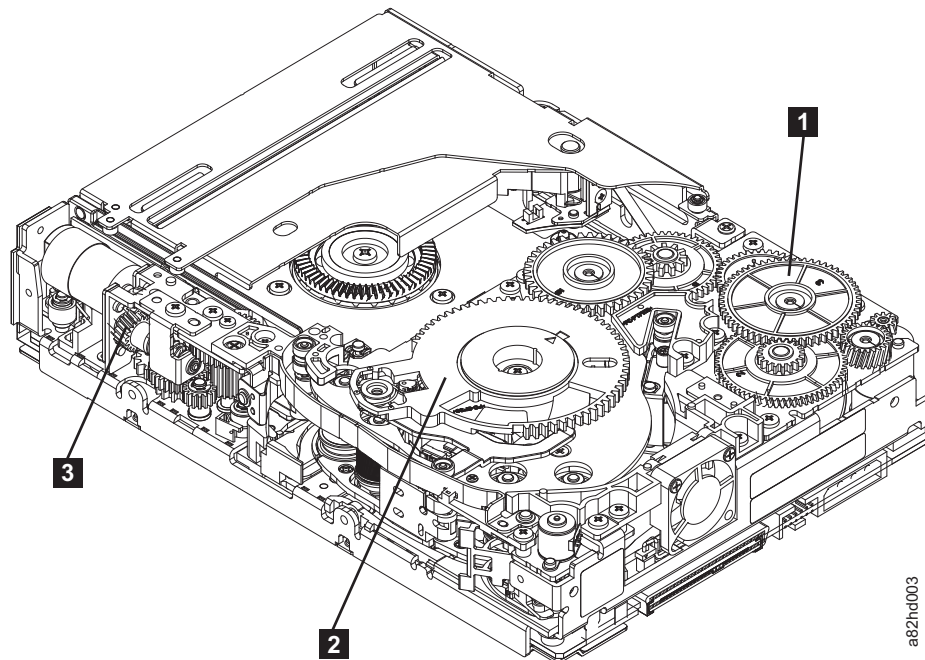

Figure 37. Drive with cover removed to reveal gear train.
4. Locate the threader intermediate gear (**1** in Figure 37) near the rear of the drive. You can use your finger to rotate the threader intermediate gear (**1** in Figure 37) and slowly rotate the threader mechanism gear (**2** in Figure 37) clockwise.
5. As the leader pin is secured in the cartridge, you hear the leader pin retention spring clips click into place. If you do not hear the click, continue rolling until the threader intermediate gear (**1** in Figure 37) stops. The LBA is in the correct position.
6. Rotate the loader motor worm gear (**3** in Figure 37) clockwise as viewed from the front of the drive until it stops. This action releases the LBA leader pin.
7. Rotate the threader intermediate gear (**1** in Figure 37) counterclockwise until the leader block is in front of the read/write head. This action moves the LBA out of the cartridge.
8. Rotate the loader motor worm gear (**3** in Figure 37 on page 90) counterclockwise as viewed from the front of the drive until it stops.